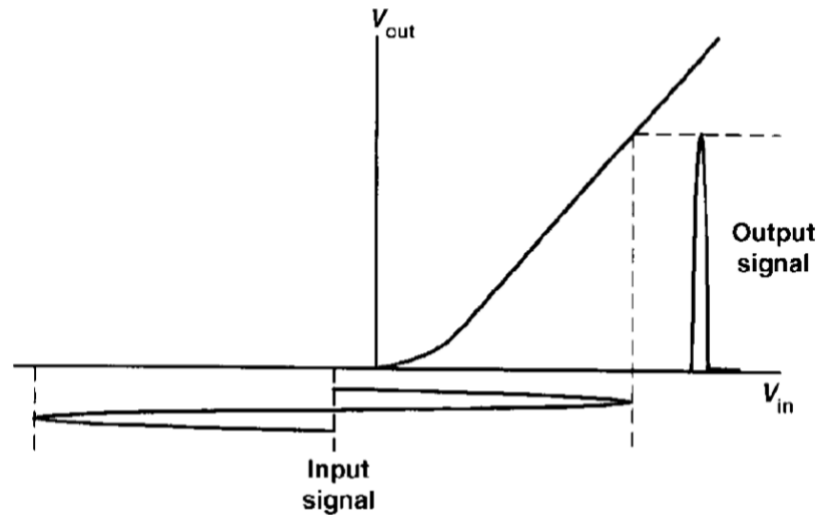

Figure 1.25 Class C operation (bias is set beyond cut-off)
- The input and output waveforms for Class C operation are shown in Fig. 1.25.